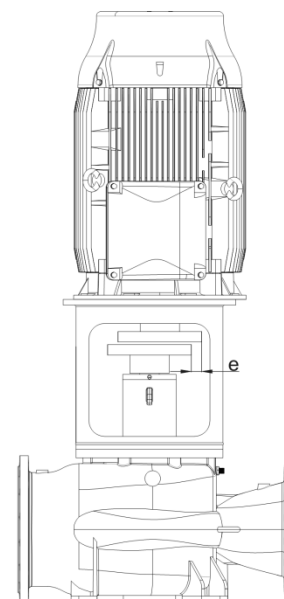

Figure 6: Parallel Axis Misalignment in Horizontal Plane and Its Correction
2.Angular Misalignment (Figure 6)